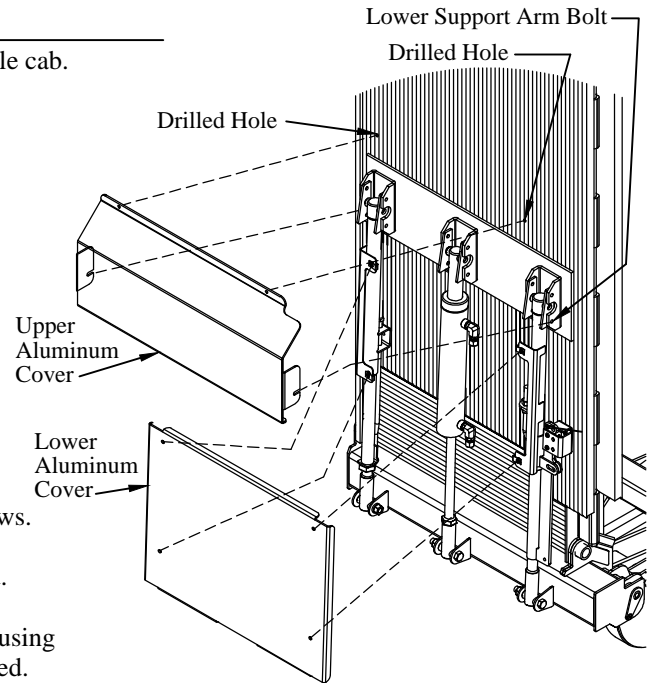
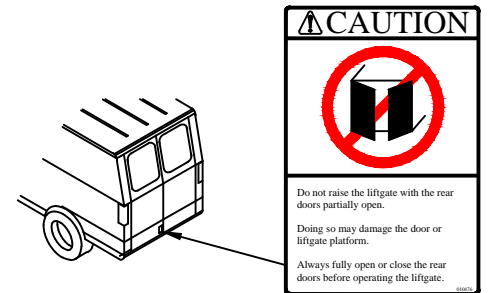

Figure 20: Aluminum cover installation.
Figure 21: Caution decal location.
- 3. Install** the upper aluminum cover on the lower 5/16" support arm bolts. 5/16" flat washers should have been installed previously (Figure 20).
- 4. Drill** two (2) 13/64" holes in the platform, using the holes in the aluminum cover as a guide.
- 5. Install** two (2) 1/4-20 self-tapping screws in the drilled holes.
- 6. Install** the lower aluminum cover using four (4) 1/4-20 self-tapping screws.
- 8. Secure** the limit switch wire to the support arm and limit switch bracket using two (2) plastic zip ties. This should be done with the platform unfolded.
- 9. Adhere** decal (PN 10476) to the exterior bottom right corner of the driver side rear door (Figure 21).